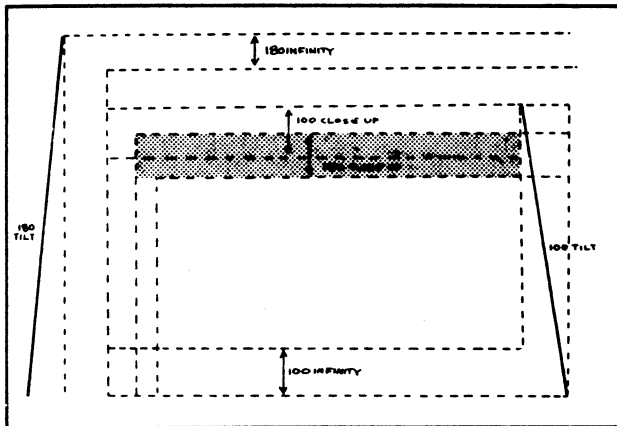

FIG. 3.6 FRAME TARGET - 180 CLOSE-UP
- a. Move the focus bar to CLOSE-UP: Observe that the top horizontal line of the yellow projected frame image is within the area bounded by the 180 close-up target lines (Figure 3-6). If it isn't, adjust the horizontal parallax as instructed in Section V.